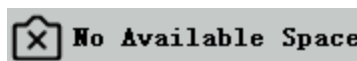

Figure 6-2
2. When pressing the snap button, recording videos, and taking photos at a fixed time, "insufficient available space" will be displayed, as shown in Figure 6-2. Please sort out the SD Card space on the computer before inserting the camera for use.